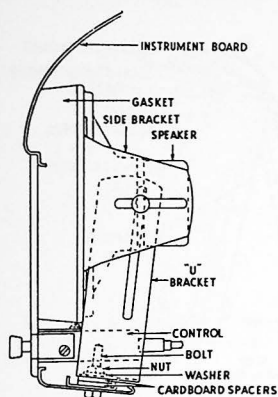

Figure 8
3. Fasten the "U" bracket to the instrument board flange with the nuts, bolts, and washers, using two cardboard spacers under each bolt. Make sure that the long slot in the sides of the "U" bracket are away from the grille. (See figure 8).
5. Loosely assemble the side brackets on the speaker to the "U" bracket and force it forward and in position as shown in Figure 8. Then tighten the nuts.